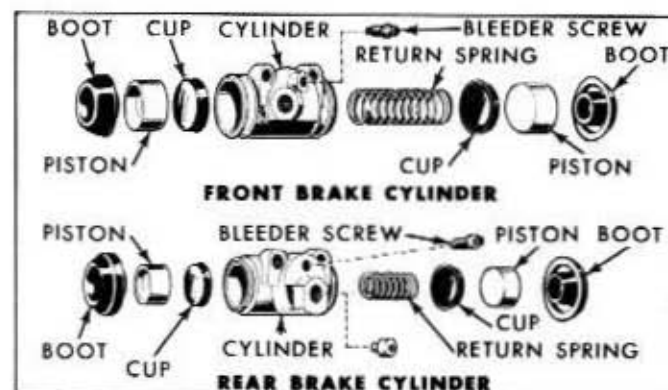

Fig. 2-12—Front and Rear Brake Cylinders—(60C-2012)
- Refer to figure 2-12. Remove the rubber boots. Remove the pistons, cups, and return spring from the cylinder bore.
1. Refer to figure 2-12. Apply a coating of heavy-duty brake fluid to all internal parts.